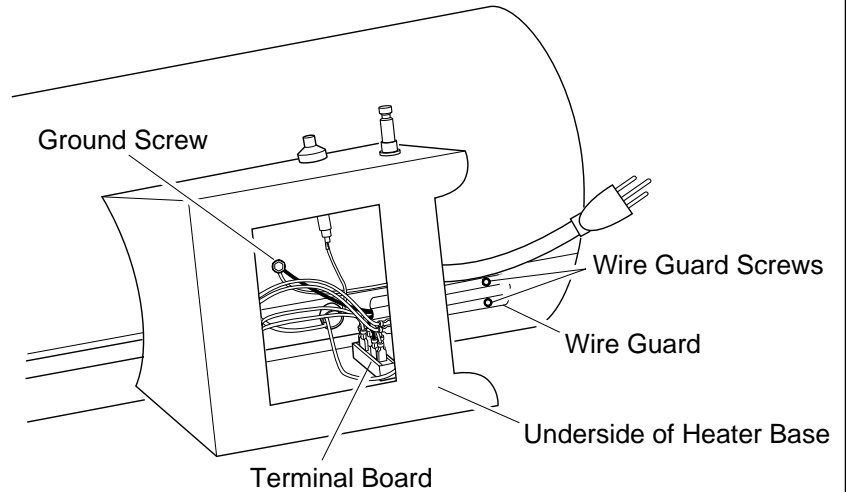

Figure 6 - Location of Ground Screw and Wire Guard
1. Access ground screw through underside of heater base. Remove ground screw. Disconnect the green motor wire and the green power cord wire from underside of shell (see Figure 6).
2. Remove black and white motor wires from terminal board (see Figure 6).
14. Turn heater on its side to access opening in bottom of base. Connect green motor wire and green power cord wire to heater shell using ground nut (see Figure 6, page 11).
16. Attach wire guard to shell with two screws (see Figure 6, page 11).